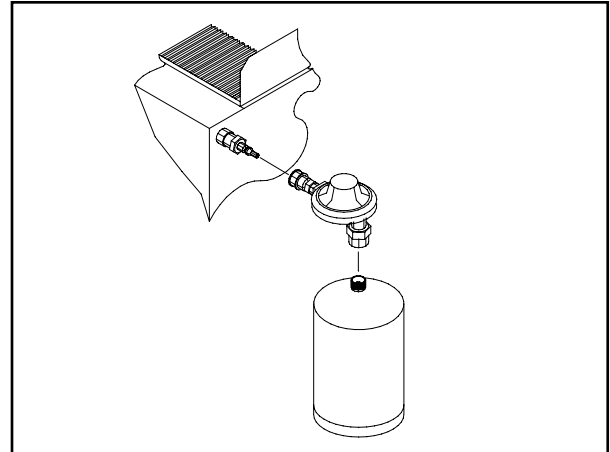
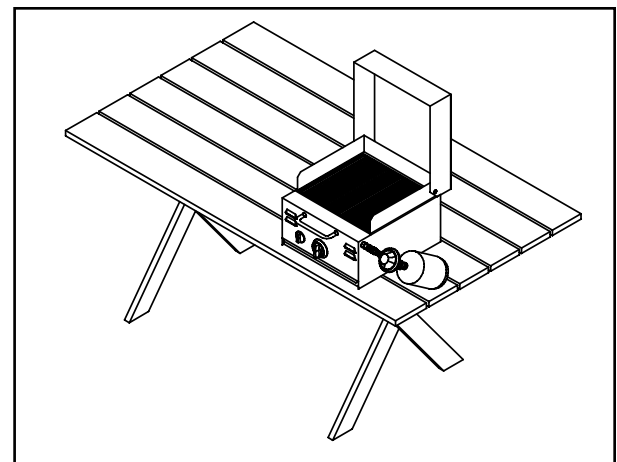

Figure 3. Disposable Cylinder Attachment
Figure 4. Disposable Cylinder Location
SUPPORTING THE APPLIANCE. WHEN PROPERLY INSTALLED, THE CYLINDER SHOULD REST AT AN APPROXIMATE ANGLE OF 45° FROM AN UPRIGHT POSITION (SEE FIGURE 4) OR A FULLY UPRIGHT POSITION (SEE FIGURE 3). THIS WILL ENSURE PROPER VAPOR WITHDRAWAL.
7. **CAUTION:** When installed, the top of the 16.4 oz. disposable LP-gas supply cylinder must be attached to the Regulator and the bottom of the cylinder must rest on the surface supporting the appliance. When properly installed, the cylinder must rest at an approximate angle of 45° from an upright position (see Figure 4). This will ensure proper vapor withdrawal.